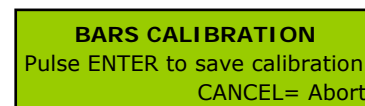

Figure 19
- When the rotation is ending in void (the bolt is touching the bar), release the pedal and press [ENTER] to store the value of the rotated angle en void. The information on Figure 19 will be then displayed.